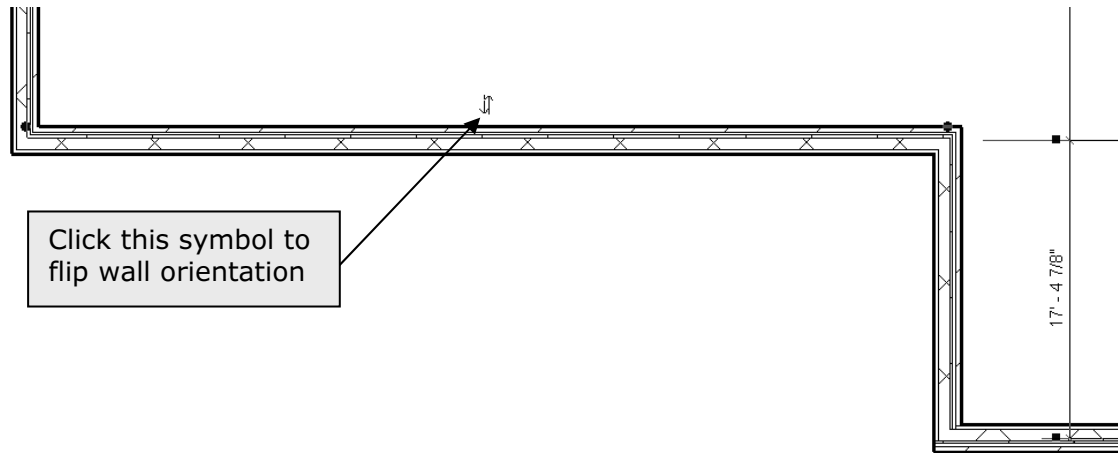

Figure 3-2.9 Selected Wall; notice some walls have the brick on the interior
22. Select **Modify** (or press **Esc**); select a wall. You will see a symbol appear that allows you to flip the wall orientation by clicking on that symbol (Figure 3-2.9).